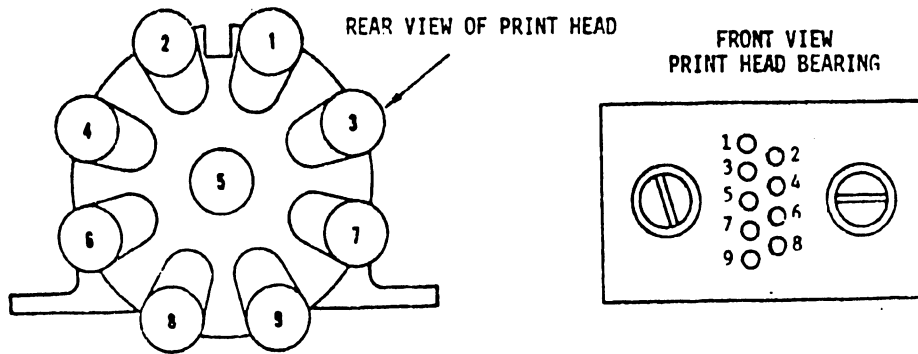

FIGURE 5-9 IDENTIFICATION OF SOLENOIDS
- 2) Unlock the desired solenoid by loosening its corresponding nylon tip locking set screw WL #650-4086 8-32 X 15/64). These screws are positioned radially at the rear of the print head. (See Figure 5-9)